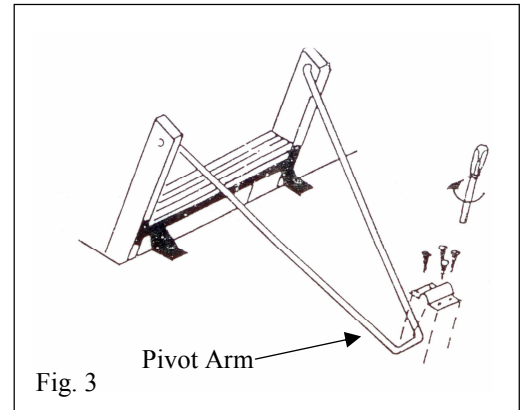

Fig. 3
- Lower pivot arm (attaching it to top of ladder) into position on sliding top board and screw tightly home. (Fig. 3)